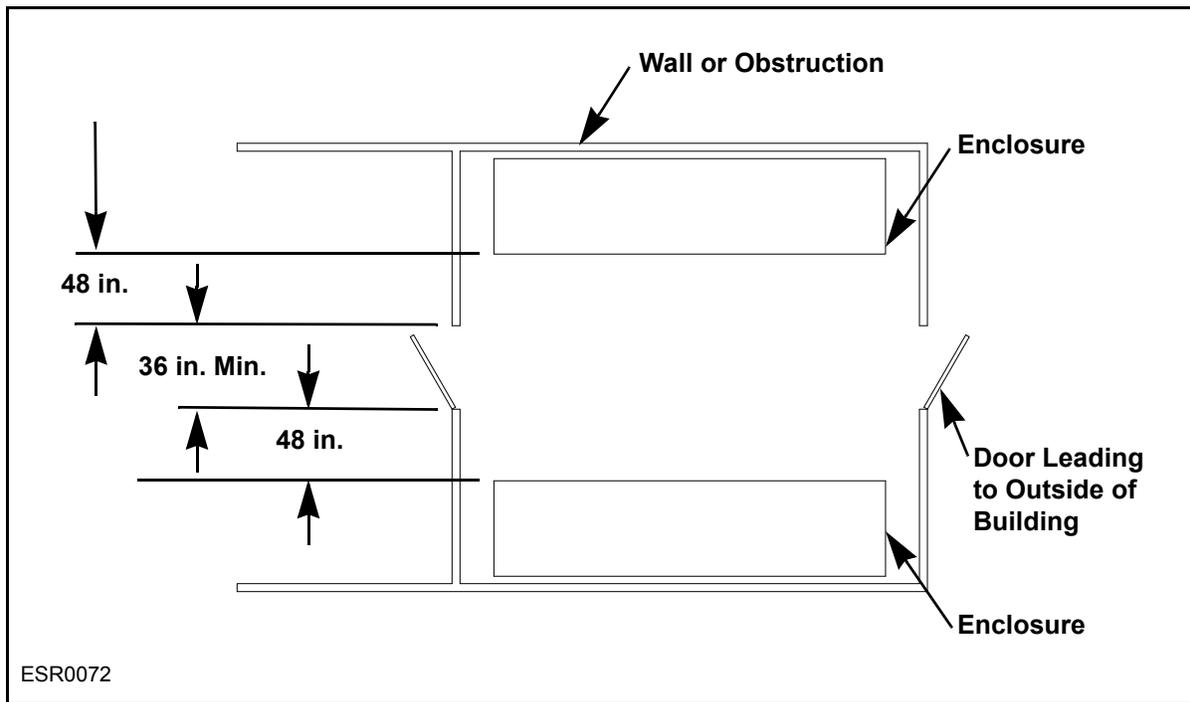

Figure 5-9: Workspace When There Are Two Enclosures and Two Doorways
- A minimum of 48 inches is required between the front of the enclosure and the closets doorway opening when the equipment in the enclosure is 600 volts or less to ground. See **Figure 5-9**.